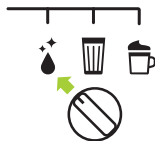

Fig. 28: Adjust the selector to the Cleaning Position.
- Adjust the selector to the Cleaning Position, place a tall glass (with capacity exceeding 190cc) under the extraction nozzle (see **Fig. 28**).